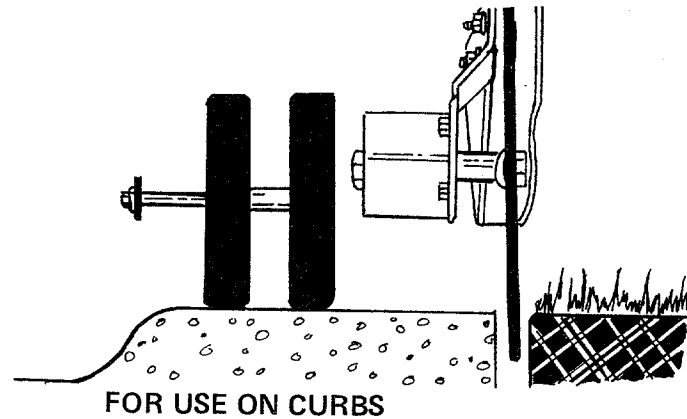

FIGURE 18
3. Move the front wheels all the way to the left when using the edger on a curb. See figure 18.